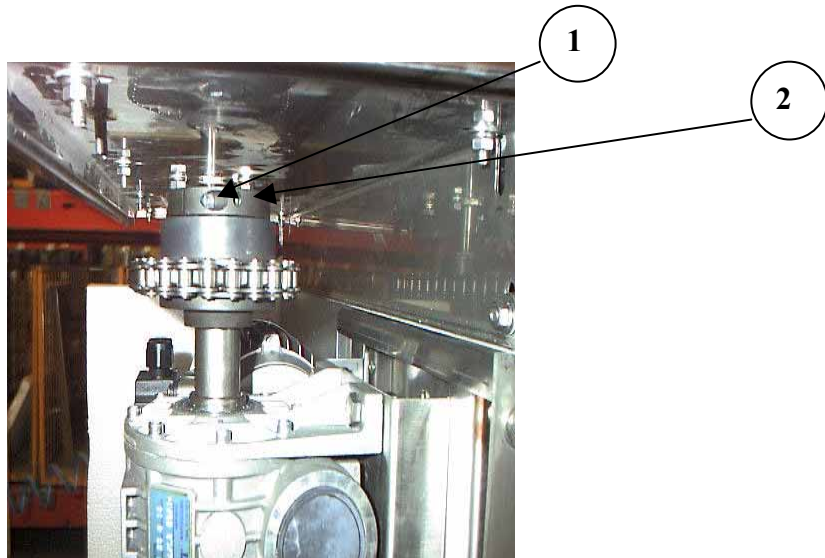

Figure 25
1. Loosen the M5 Allen bolt (1) indicated in (Figure 25).
3. Tighten the M5 Allen bolt (1) (Figure 25).